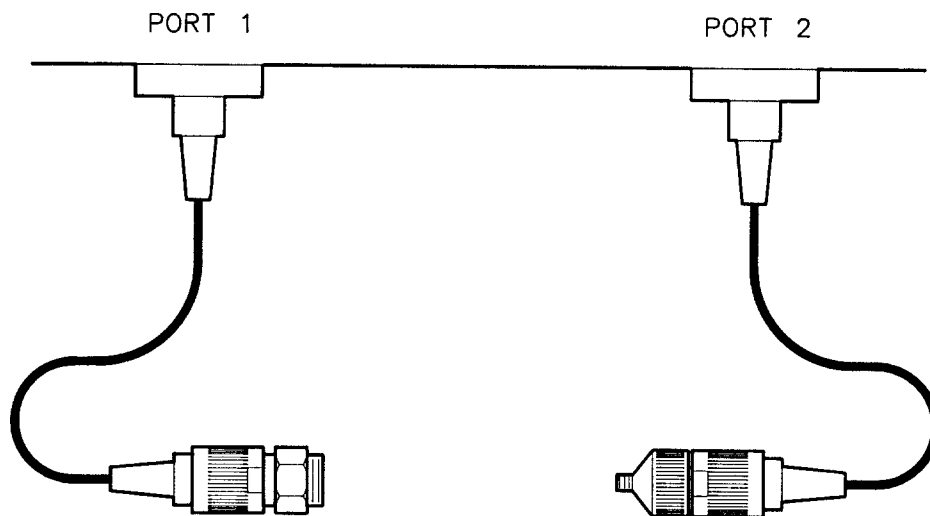

Figure 4-6. Equipment Configuration
1. Ensure that cables are connected to port 1 and port 2 (as they were connected during the calibration procedure). (Figure 4-6).